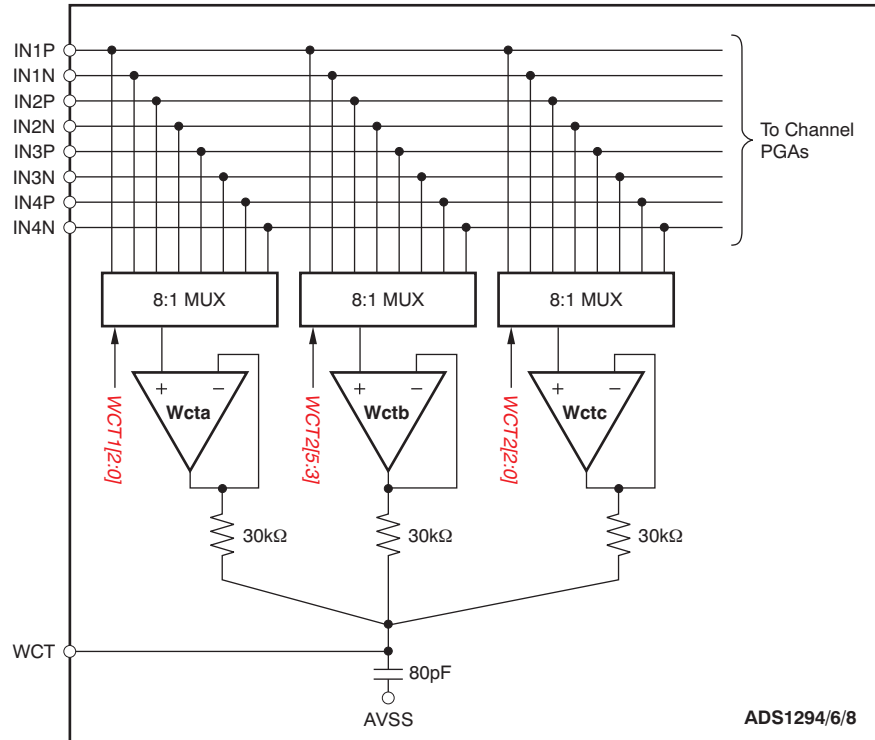

Figure 36. WCT Voltage
In the standard 12-lead ECG, WCT voltage is defined as the average of Right Arm (RA), Left Arm (LA), and Left Leg (LL) electrodes. This voltage is used as the reference voltage for the measurement of the chest leads. The ADS1294/6/8 has three integrated low-noise amplifiers that generate the WCT voltage. Figure 36 shows the block diagram of the implementation.